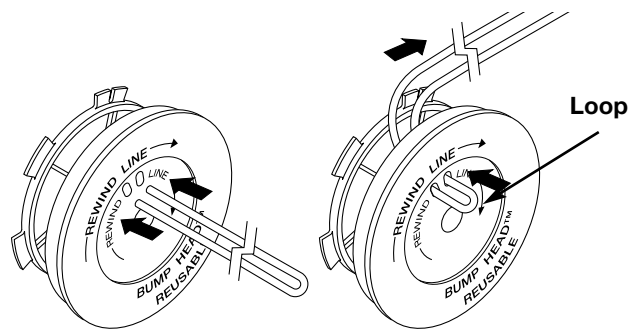

Figure 22
- Take approximately 25 feet (7.6 m) of new trimming line, loop it into two equal lengths. Insert each end of the line through one of the two holes in the inner reel. Pull the line through the inner reel so that the loop is as small as possible. See Figure 22.